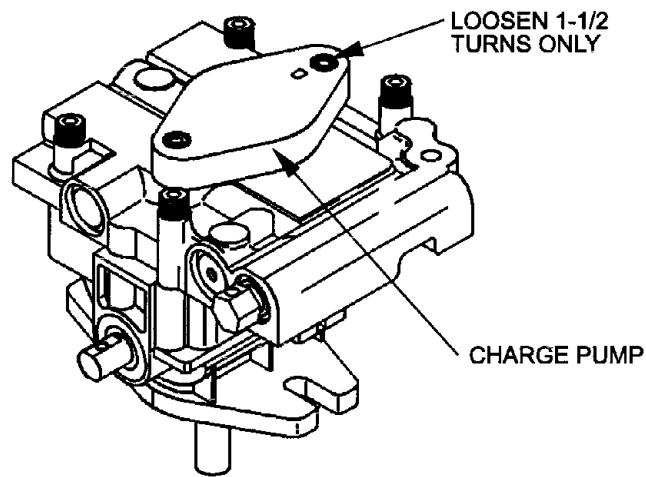

FIG. 6
- f) If either drive wheel does not rotate, one or both of the charge pumps (located on the top of the main pump as shown in Figure 6) may have lost their "prime". Refer to Section 5.1.10.
The critical area for purging air from the hydraulic system is between the oil reservoir and each charge pump located on the top of each variable displacement pump. (See Figure 6).
- d) To "prime" charge pump, loosen two hex socket head capscrews (shown in Figure 6) **1-1/2 turns only. Make sure engine is not running.** Lift the charge pump housing upward and wait for a steady flow of oil to flow out from under the housing. Retighten the capscrews. Do this for both pumps.